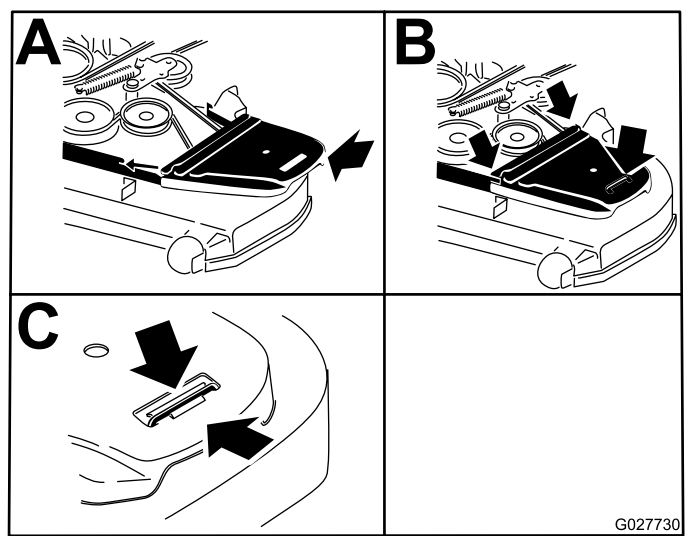

Figure 96
12. Install the belt covers (Figure 96).